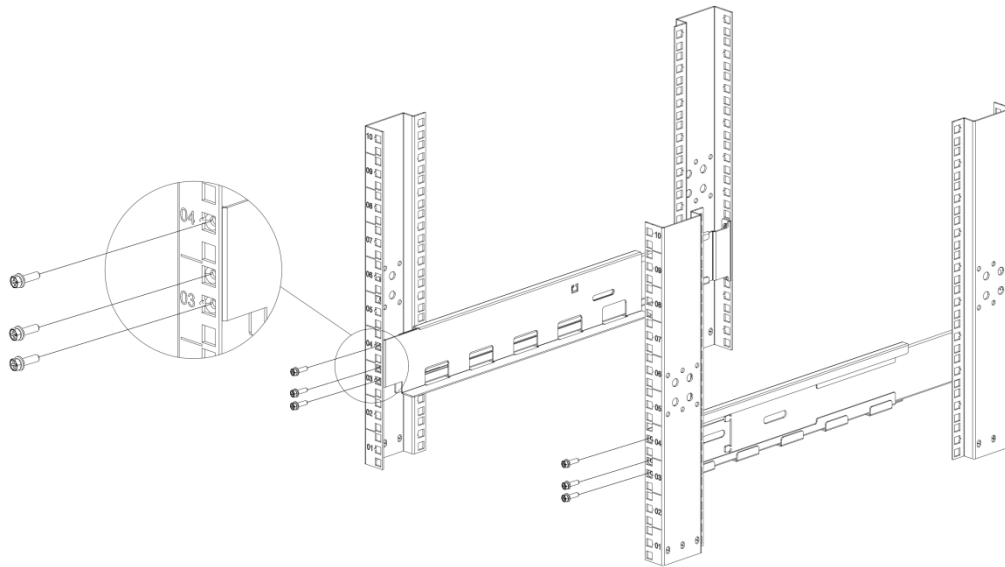

Figure 25: Install the Front Side of Rails
12. Install the front side of the rail kit with 3x Phillips Pan Head M5 screws (see Figure 25) on each rail. Do not tighten the screws.